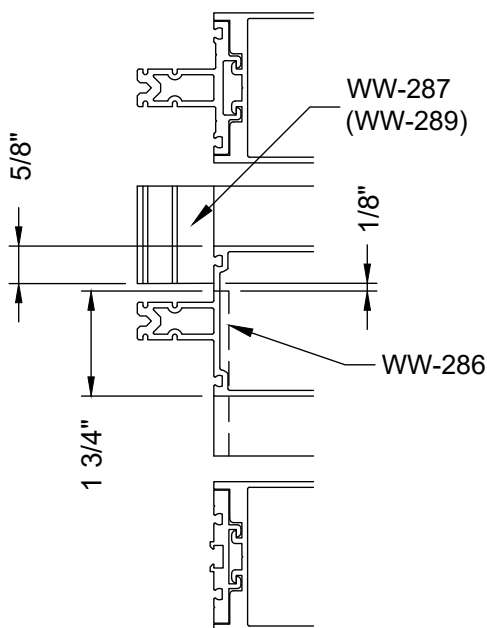
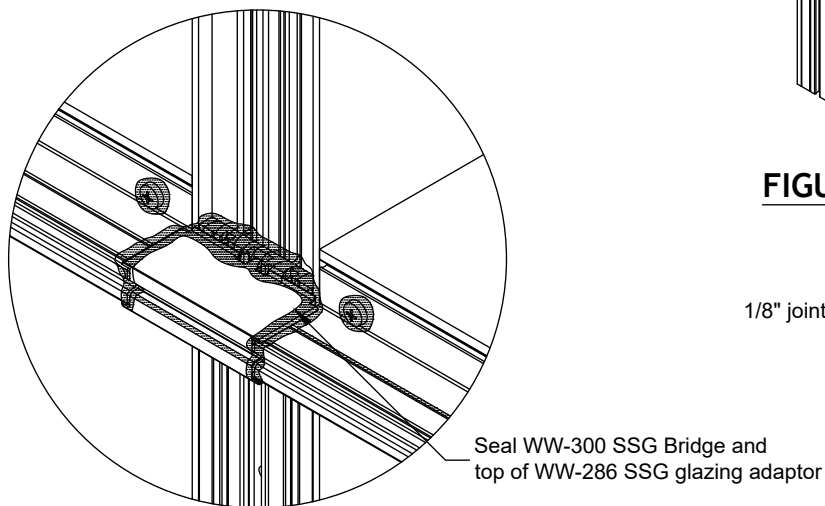

FIGURE 11
FIGURE 13
- 7) The WW-563 mullion can be used for installation of captured to SSG transitions. Installation of typical SSG adaptors would apply where applicable as shown in previous pages. Transitions to captured are shown in figures below. Captured adaptor will be cut to run day light opening plus 5/8" at top and bottom of the WW-287 (WW-289). See FIGURE 11 & 12.
- 8) The WW-287 SSG adaptor will be cut day light opening plus 1-3/4" so that it extends above and/or below the horizontal stem as needed. See FIGURE 11 & 12. This will allow the installation and sealing of the WW-300 zone bridge. Top of SSG adaptor must be sealed and married to seals at bridge. See FIGURE 13.